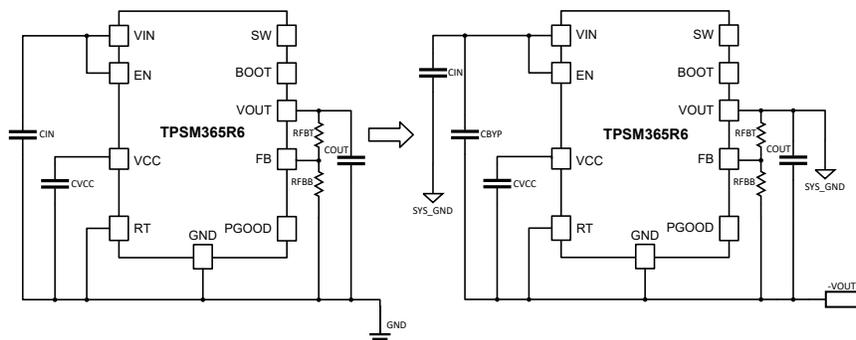

Figure 1-1. Converting From Buck to Inverting Buck-Boost Topology
In the standard configuration, the TPSM365R6 IC can tolerate a 65 V difference between its V_{IN} and IC GND pins. In an IBB, however, TPSM365R6 IC GND is referenced to the negative output voltage pin, $-V_{OUT}$, see Figure 1-1. The TPSM365R6 will experience a potential difference of V_{IN} to $-V_{OUT}$ between its V_{IN} and TPSM365R6 IC GND pins, which effectively limits the input voltage range of the TPSM365R6 module in its inverting buck-boost configuration. For example, for an output voltage of -12 V, the maximum input voltage will be 53 V, as this results in a 65 V potential difference between the TPSM365R6 IC's V_{IN} and GND pins. The output voltage range in the TPSM365R6 IBB topology is -1.8 V to -13 V.
The CIN from the standard buck evaluation module acts as the bypass capacitor in the inverting buck boost configuration as shown in Figure 1-1. This included capacitor will have an inherent 2.2-μF from the evaluation board, but more bypass capacitance can be added to improve load transient performance.
Stability is an important factor in the system when adding more output capacitance. The general rule of thumb for a stable design is a desired phase margin (PM) of at least 45° and under 70°. In some cases, a feed forward capacitor, C_{ff}, is necessary to maintain the stability of the system's open loop conditions. The TPSM365R6 EVM includes a 10-μF feed forward capacitor inherently. As a general rule of thumb, Equation 5 can be used to determine valid values for C_{ff}. C_{ff} is to be placed across the RFBT resistor shown in Figure 1-1.